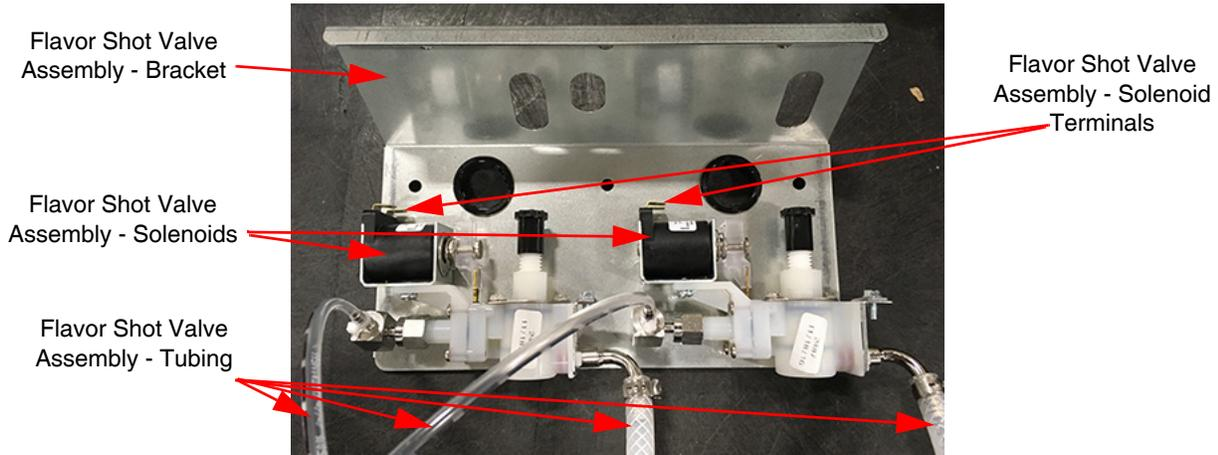

FIGURE 12
1. Locate the two (2) Flavor Shot Valve Assemblies. See FIGURE 12.
Note: FIGURE 12 shows one Flavor Shot Valve Assembly; two are provided with the Fluidics Kit.